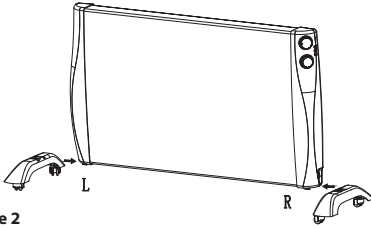

Figure 2
- Fix the 2 feet into the bottom groove of the radiator, double check the R&L distinguish (Figure 2).